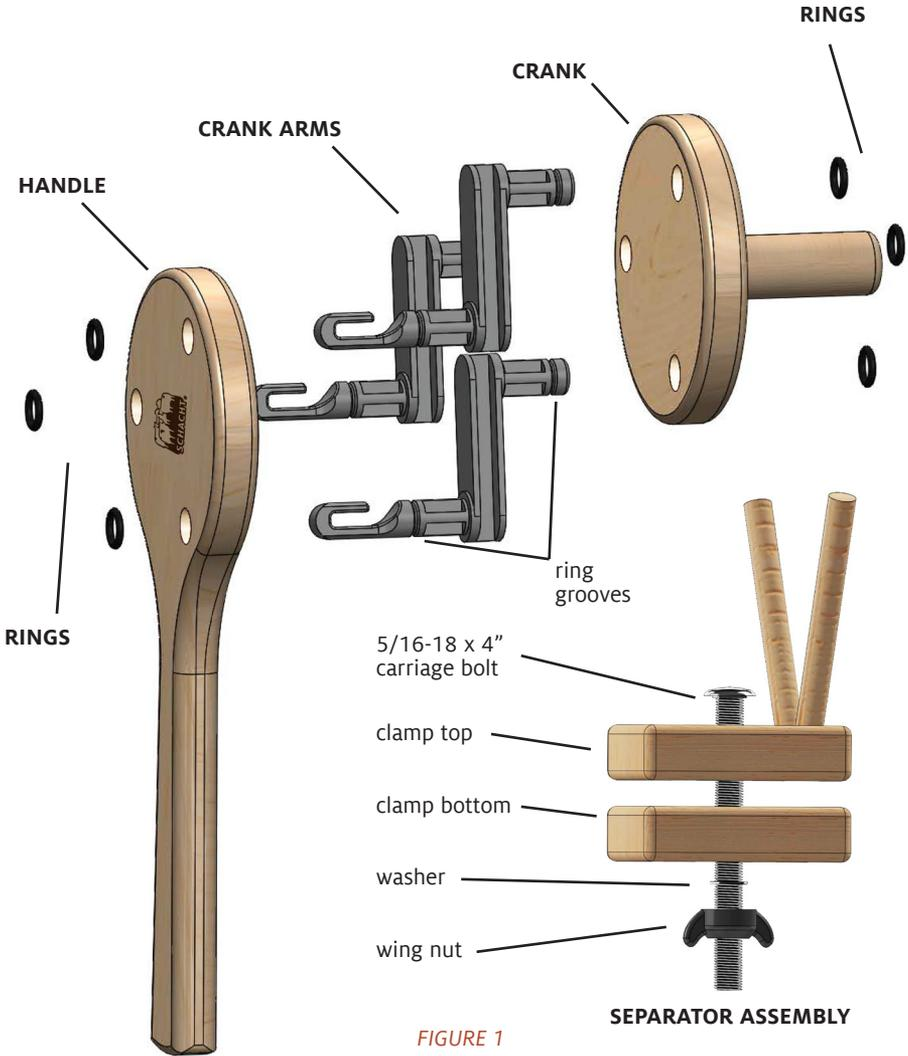

FIGURE 1
1. Slide the hooked end of the crank arms through the holes in the handle from the back to front as indicated in Figure 1.
3. Align and slide the other end of the crank arms through the holes in the crank as indicated in Figure 1.